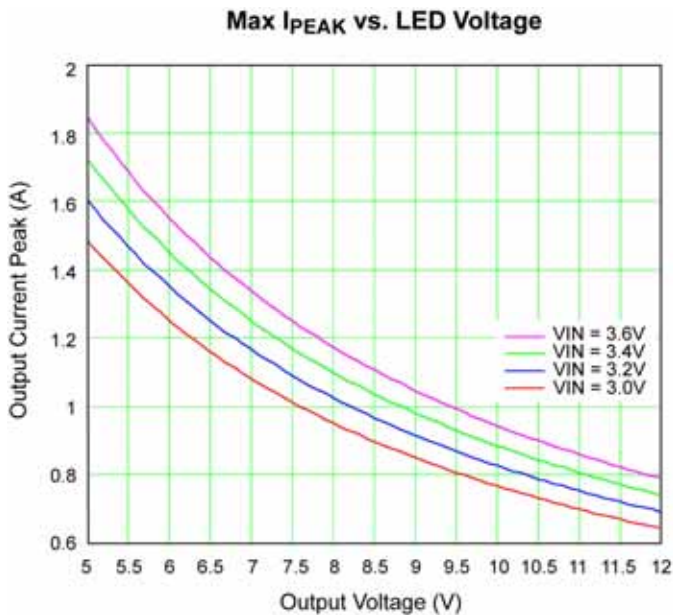

Figure 8. Peak Output Current vs. VOUT
The SOA (safe operating area) of the MIC2298 is shown in the typical characteristics sub-section. This graph represents the maximum continuous output power capability of the part when used in the evaluation board layout. An alternative layout with more copper area for heat sinking will increase the area under the SOA curve. Note that the SOA is for continuous power and not peak power and is effectively a thermal limitation. The SOA is true for a time constant of approximately >1 second. Therefore, any load transient with a period of < 3s can exceed the SOA curve power up to a maximum limited by the current limit of the MIC2298. Figure 8 shows the theoretical output current limit of the MIC2298 using the Evaluation Board inductor value of 4.7µH.
- The time constant of the driver is < 3 seconds, so one can look at the peak current capability of the driver in Figure 8.
- Looking at Figure 8, the MIC2298 can achieve more than the required 800mA peak current at 8.4V.